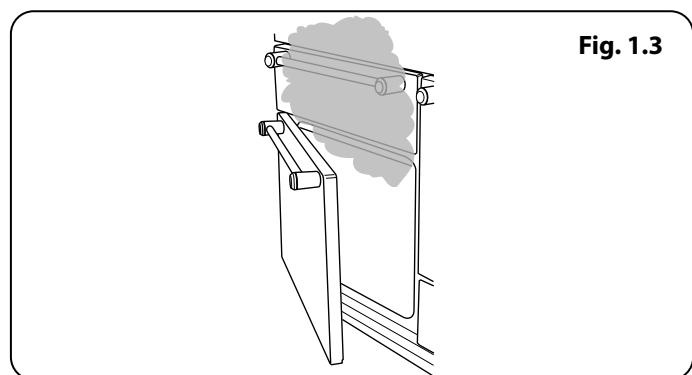

Fig. 1.3
- Cooking high moisture content foods can create a 'steam burst' when the oven door is opened (Fig. 1.3). When opening the oven, stand well back and allow any steam to disperse.